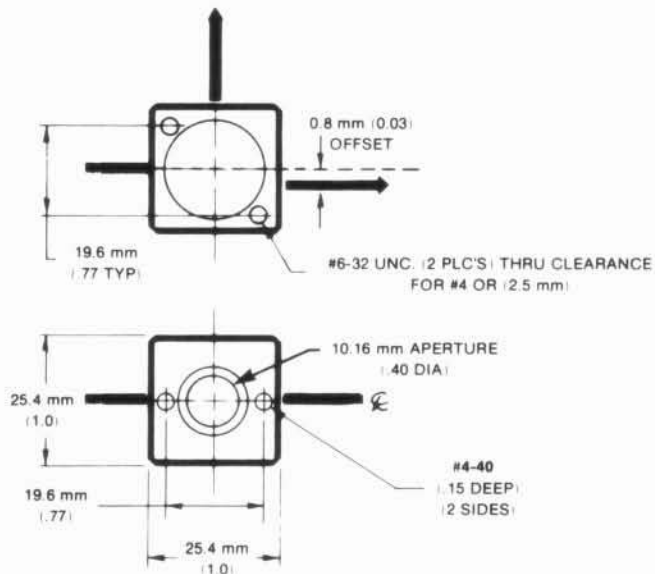

Figure 8-16. HP 10701A 50% Beam Splitter, Dimensions
**Dimensions:** See Figure 8-16.